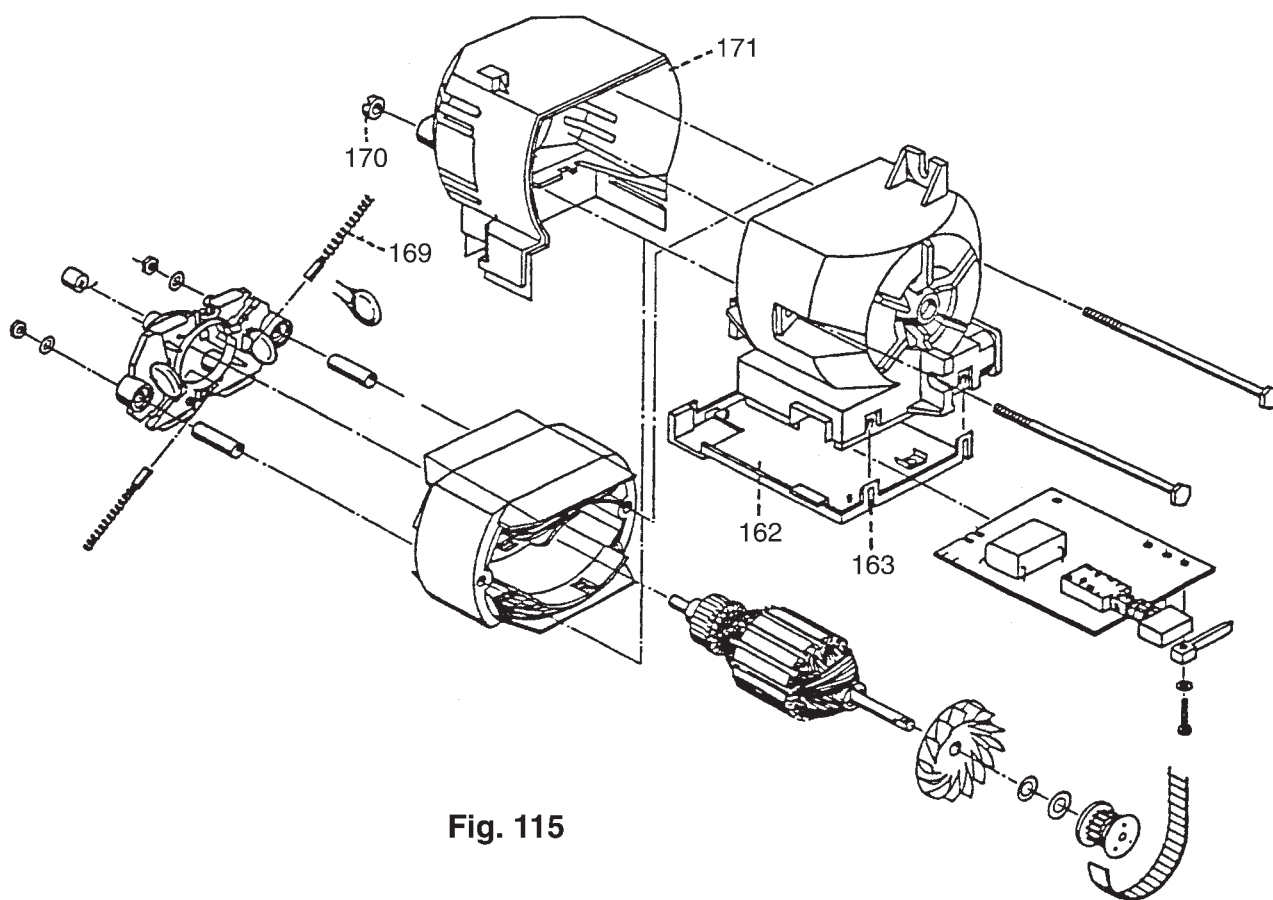

Fig. 115
- Slightly raise the two locking tabs 163 and remove cover 162 (fig. 115).